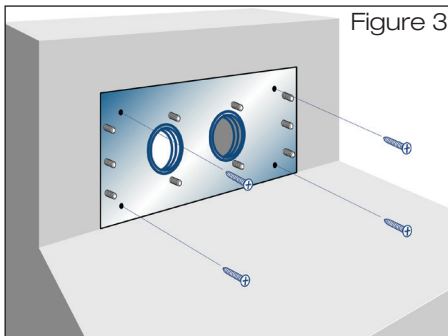

Figure 3
- 1.3 Fasten the sliding flange by means of a screwdriver (fig. 3).